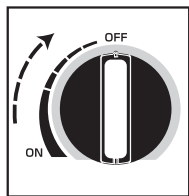

Fig. 4
- Open the bomb cover, make sure the ignition knob in OFF position (Fig. 4)